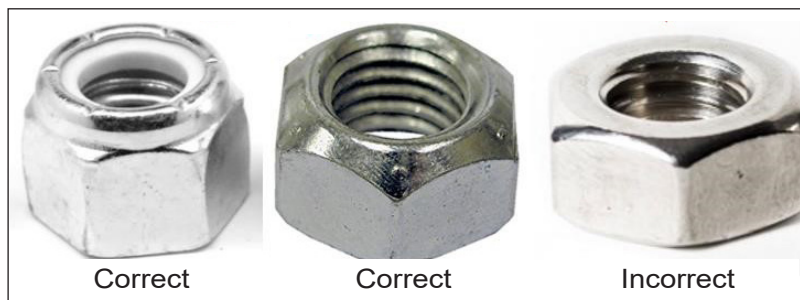

Figure 2 — Fastener Comparison
- Verify the nuts are the correct size and type (refer to Figure 2). The nut specification is ¼-20 UNC, top lock. You may also use a ⅜" wrench to check the hex nut size. A snug fit would indicate the correct size nut. Look at the fasteners for any visible signs of damage.